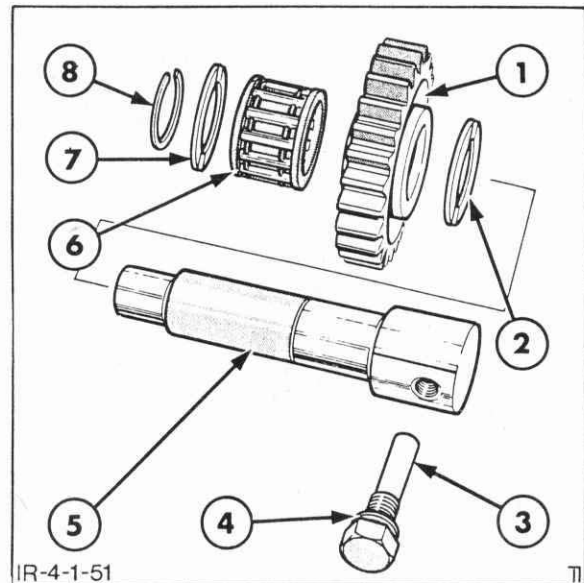

Figure 4-81
1. Thoroughly clean the reverse idler gear components, Figure 4-81, with a suitable solvent and allow to dry.